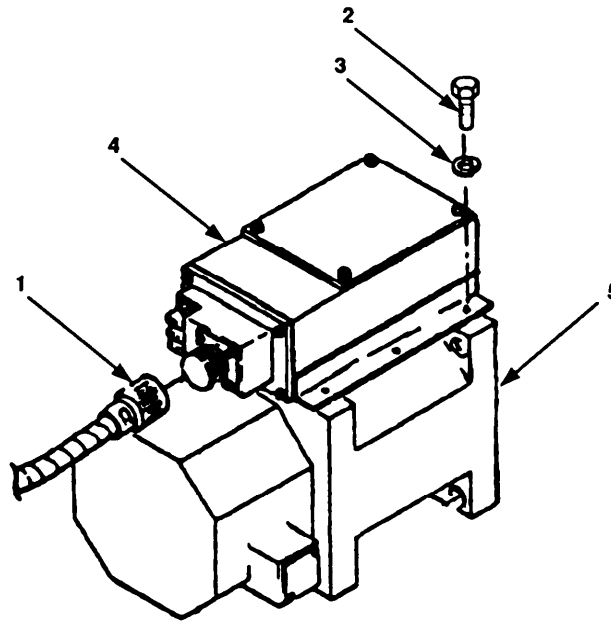

Figure 4-57. Control Box Maintenance.
- a. Disconnect electrical connector (1, figure 4-57).
- b. Remove four screws (2) and lockwashers (3).
- c. Carefully lift control box (4) straight up off of actuator (5).
- a. Place control box (4) on actuator (5) and install with four lockwashers (3) and screws (2).
- b. Connect electrical connector (1).